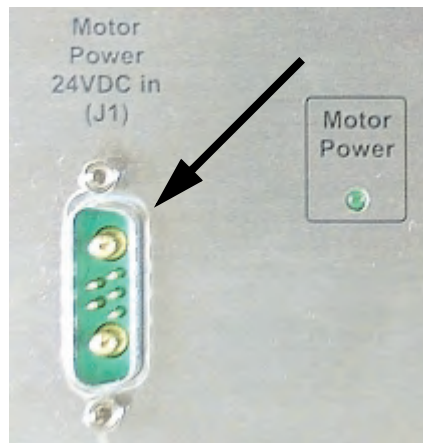

Figure 2-11. 24 VDC In Connector
3. Attach the connector end of the cable to the Motor Power 24 VDC In (J1) connector on the front of the Adept AnyFeeder (see Figure 2-11).